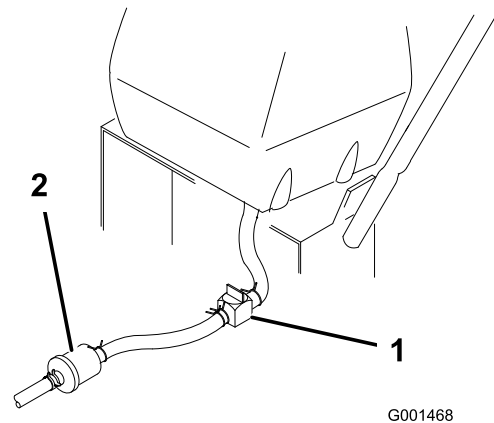

Figure 33
2. Close the fuel shut-off valve at the fuel tank (Figure 33).
3. Squeeze the ends of the hose clamp together and slide it up the fuel line away from fuel filter (Figure 33).
4. Pull the fuel line off the fuel filter (Figure 33). Open the fuel shut-off valve and allow the gasoline to drain into a gas can or drain pan.
3. Close fuel shut-off valve at the fuel tank (Figure 33).
7. Open fuel shut-off valve at fuel tank (Figure 33).